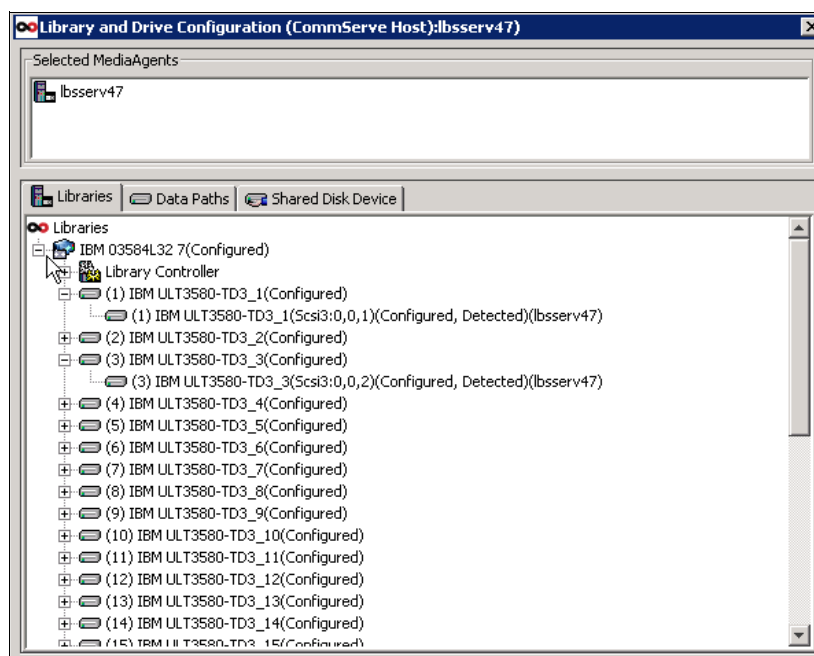

Figure 18-13 Verify the discovered tape drives
15. When prompted, select the **Ultrium V3** type of media for a Discovery Media Option and verify that all the remaining tape drives are correctly detected and configured (Figure 18-13).